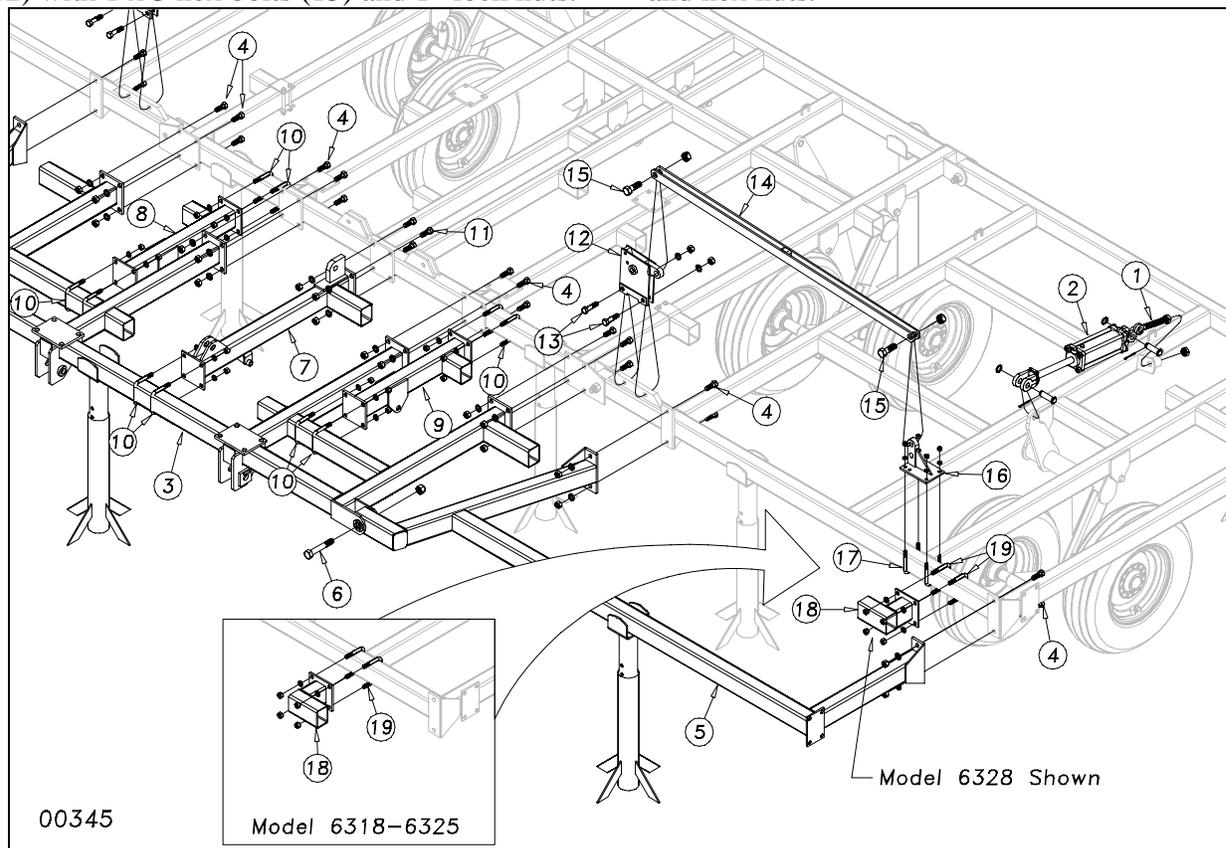

Figure 4
Install the 1 x 7 1/2 eye bolt (1) Figure 4, in the mounting bracket at the back of the wing with a 1" jam nut on each side of the bracket. Install the rephasing wing cylinder (2) between the eyebolt and the lever on the wheel bracket (see parts manual for cylinder size). Secure the cylinder with 1" clevis pins, 1" machine washers and 3/16 x 2 cotter pins.
On models 6318-6328, bolt the rocker bracket (12), Figure 4, to the front bar of the wing using two 3/4 x 3 hex bolts (13) with lock washers and hex nuts. On model 6328, attach the connecting link (14) to the rocker bracket (12) with 1 x 3 hex bolts (15) and 1" lock nuts.